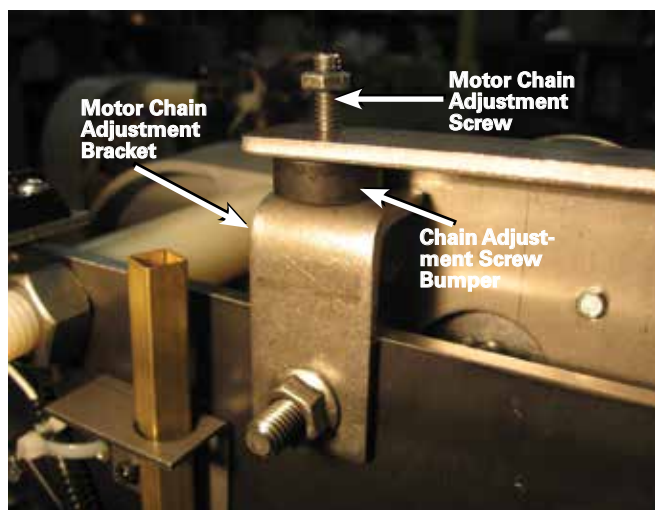
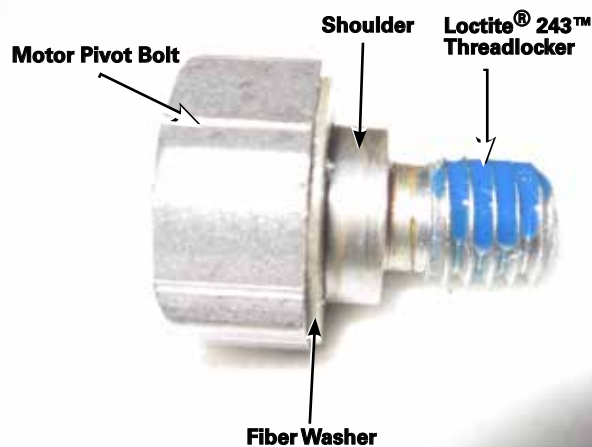

Figure 118. Motor positioning.
Figure 120. Motor pivot bolt.
14. Move the motor assembly into position with the motor chain adjustment screw bumper located on top of the adjustment bracket and the motor pivot stud inserted through the mounting hole in the motor mounting plate. Secure the motor mounting plate to the motor pivot stud with the locknut removed in Step 6. Refer to Figures 118 and 119. Using a torque wrench with a 9/16" socket, tighten the pivot motor stud locknut to 180–192 in-lbs (20.0–21.1 Nm). Proceed to Step 16.
15. Apply Loctite® 243™ threadlocker on the threads of the motor pivot bolt and verify the fiber washer is still located on the motor pivot bolt shoulder. Refer to Figure 120. Move the motor assembly into position with the motor chain adjustment screw bumper located on top of the adjustment bracket. Refer to Figure 118. Align the hole in the motor mounting plate with the hex spacer hole. Insert the motor pivot bolt through the motor mounting plate and hand tighten into the hex spacer. Refer to Figure 124. Make sure that the shoulder on the bolt is completely inserted through the hole in the motor mounting bracket. Using a torque wrench with a 3/4" socket, tighten the motor pivot bolt to 45–55 in-lbs (5.0–6.1 Nm).